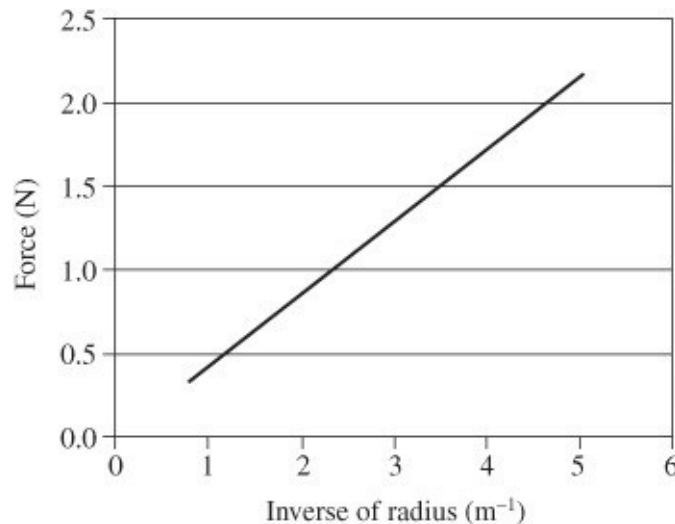

Figure 13-6 Centripetal force versus reciprocal of radius.
2. Plotting force versus the reciprocal of radius ($1/r$) results in a straight line, as shown in Figure 13-6.